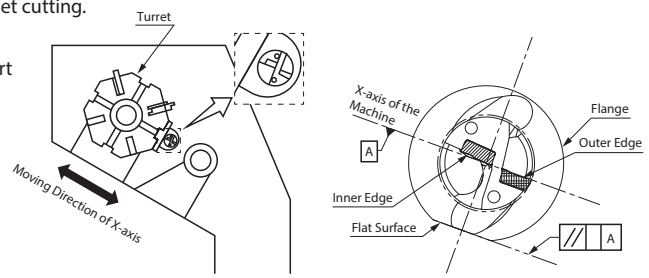
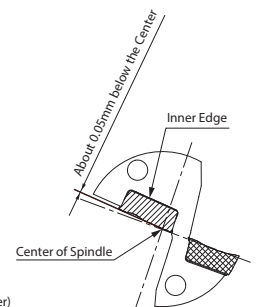

Fig.1 Installed into the Lathe
Fig.5 Front View of the Drill
- Align the scale at the flange periphery of the sleeve to the center of the coolant plug of the drill.(Fig.1)
2. It is recommended to set the outer insert as shown in Fig.1 with the outer insert facing the operator. (Fig.1)
When installing inner insert as shown in Fig.1, it will be set around 0.05mm below the Center of Spindle. (Fig.5)